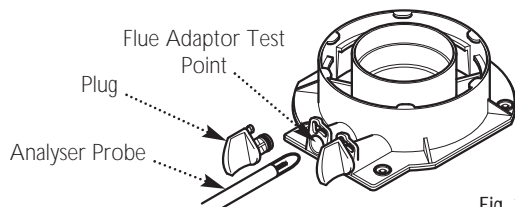

Fig. 108
7. Remove the plug from the flue sampling test point. Insert the analyser probe and allow sufficient time for the reading to settle (Fig. 108).